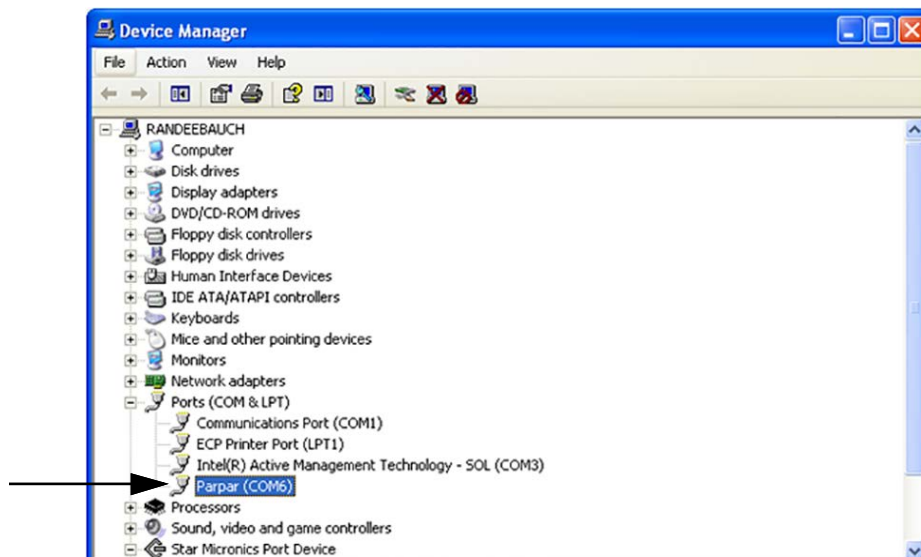

Figure 5-4. Device Manager
- To configure a printer using the USB driver, open the software driver Parpar in the device manager (Figure 5-4). The port assigned to that driver is displayed.